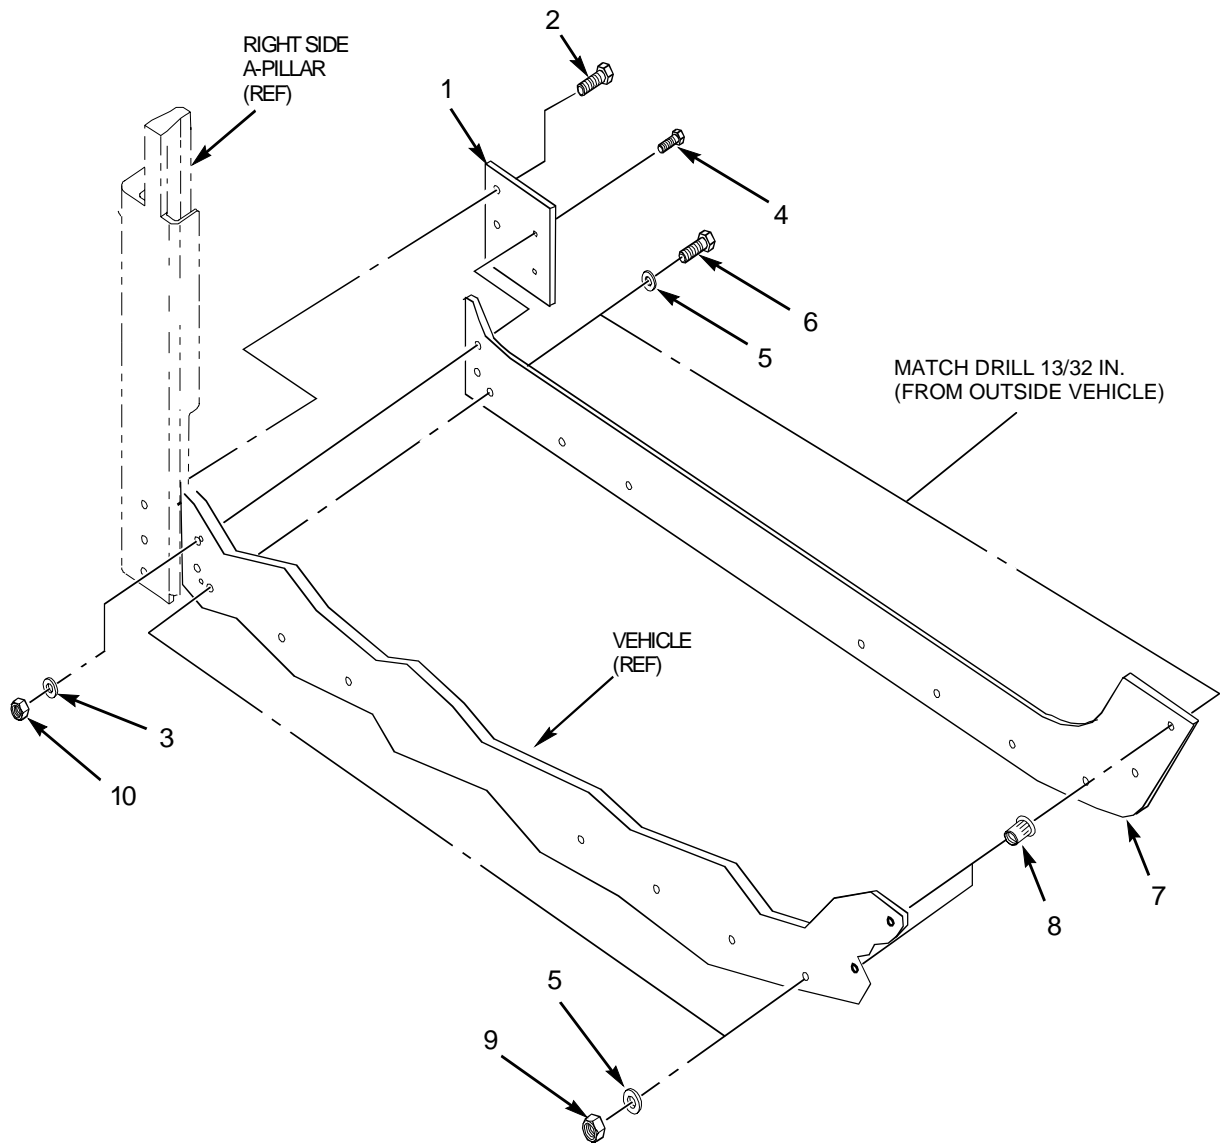

Figure 1-7. Right Rocker Panel Armor Installation (2 and 4 Door)
- 1) Position right rocker panel armor (7) to vehicle and c-clamp in place (see figure 1-7).
- b. Apply sealing compound to capscrews (2), (4), and (6).
- c. Install right side rocker panel (7) with nine capscrews (6), washers (5), and seven locknuts (9). Ensure two
- d. upset fasteners (8) have been previously installed (see figure 1-7).